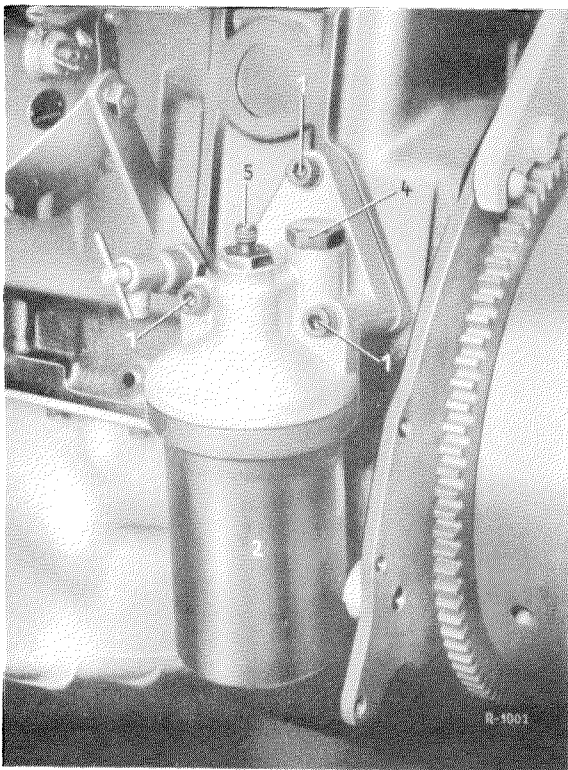

Figure 18-7/4
1. Before removing the complete oil filter, unscrew the line for the oil pressure gauge from the fitting (5) (see Figure 18-7/4).
2. Unscrew the mounting screws (1) from the filter housing upper part and remove the filter (see Figure 18-7/4).